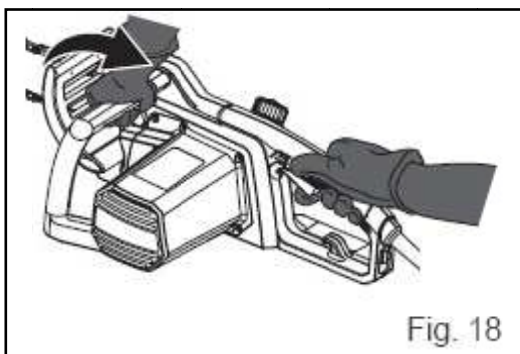

Fig. 18
Grasp the front handle (1) with your left hand. Your thumb and fingers should encircle the handle (18) with your right hand. Your thumb and fingers should encircle the handle (Fig. 18). Press the lock-off button (16) with your right thumb, then fully squeeze in the on/off switch (17) with your index finger and hold it in position.